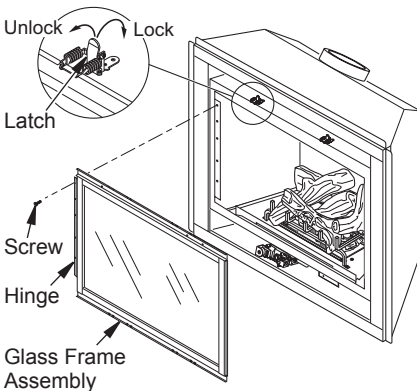

Figure 38 - Removing/Replacing Glass Door
2. Lift up on latches to unlock. There are two on top of firebox and two below firebox that hold glass door in place (see Figure 38).
3. While holding glass door to prevent it from falling and causing injury, remove five screws from hinge located on left side of door frame assembly (see Figure 38).
5. Close glass door frame. Lock latches by placing bar under tab on door and pushing down and back on latch (see Figure 38, page 24).